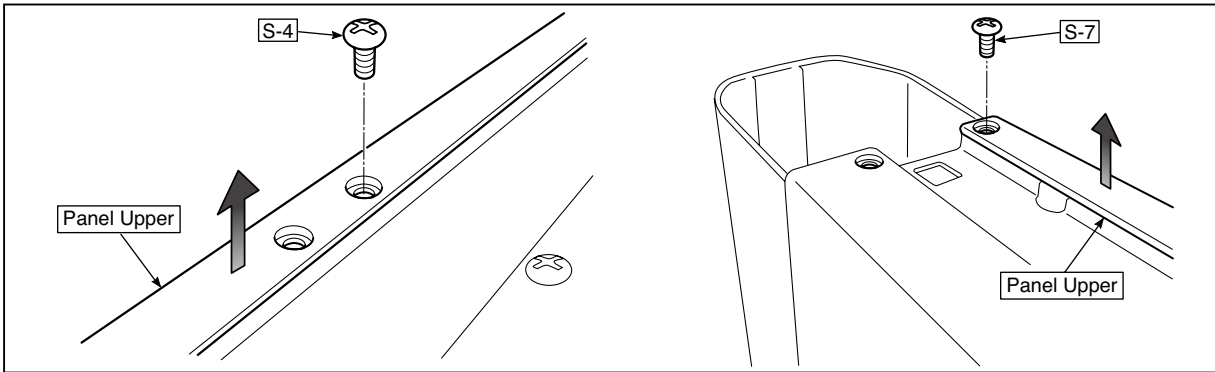

Fig.23
9) Remove the Panel Upper. (See Fig. 23)
1. Remove the "S-4" and "S-7" screws shown in the figure 23 and then remove the Panel Upper.